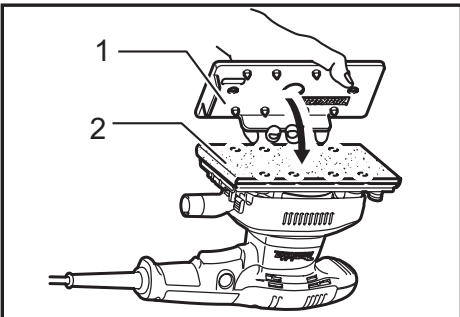

Fig.4
► **Fig.4:** 1. Punch plate 2. Abrasive paper without pre-punched holes